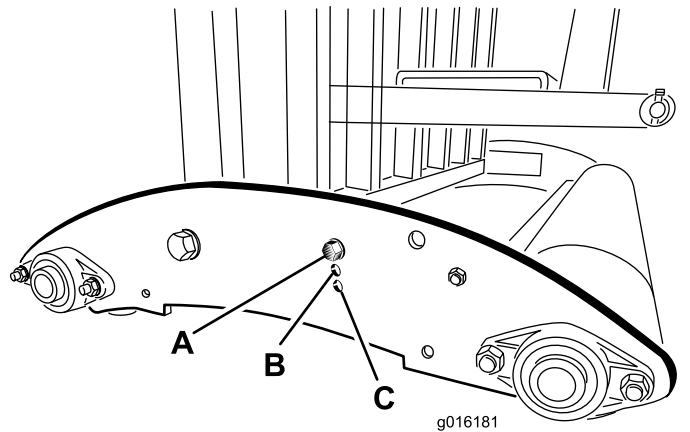

Figure 33
**Note:** On SR54-S and SR70-S models, mount the ends of the tubes to the lower side plate mounting holes if the aerator tine depth is set in Position A (Figure 33). Use the upper mounting holes for depth setting Positions B or C.